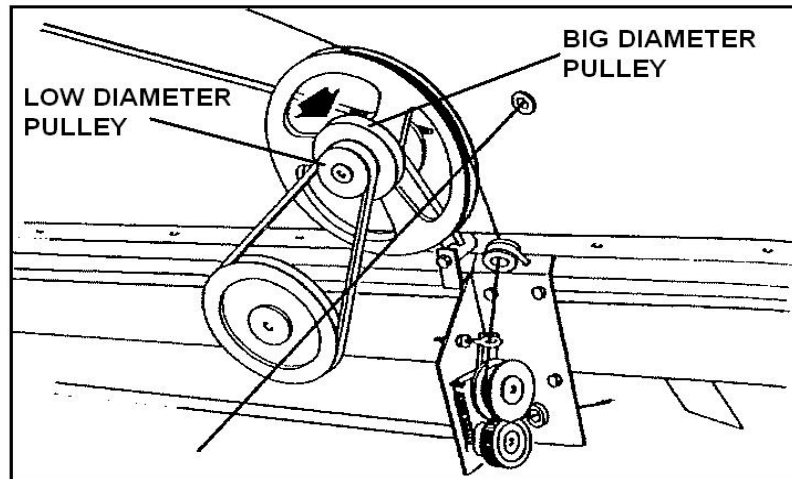

Fig. 16
- door opener control hose 3 to be connected with the outlet of lever P of the tractor (insert B fig. 16/A);
- raise pick-up control hose 4 to be connected with the outlet of lever R of the tractor (insert B fig. 16/A);